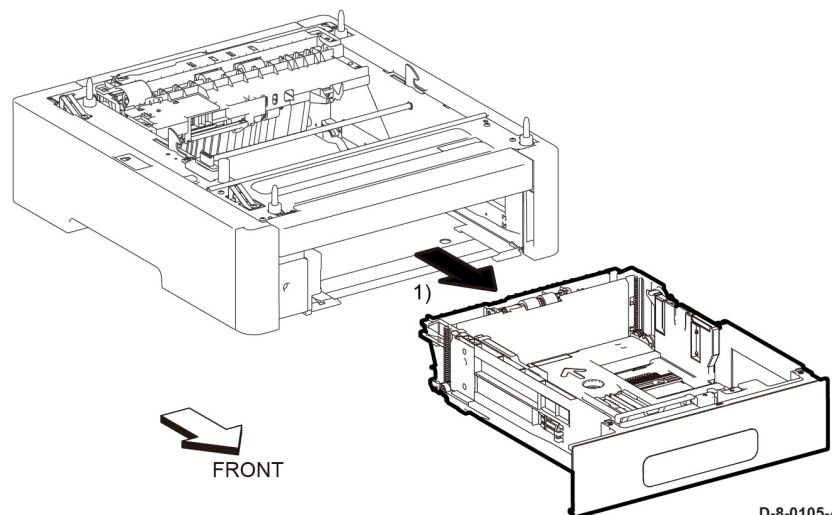

Figure 1 Remove the IOT 550 feed tray
1. Remove the IOT 550 feed tray, Figure 1